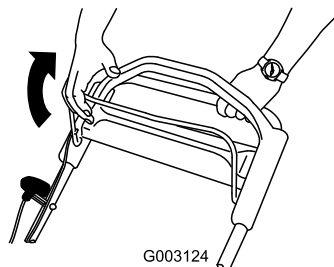

Figure 24
2. Pull the blade control bar to the handle (Figure 24).